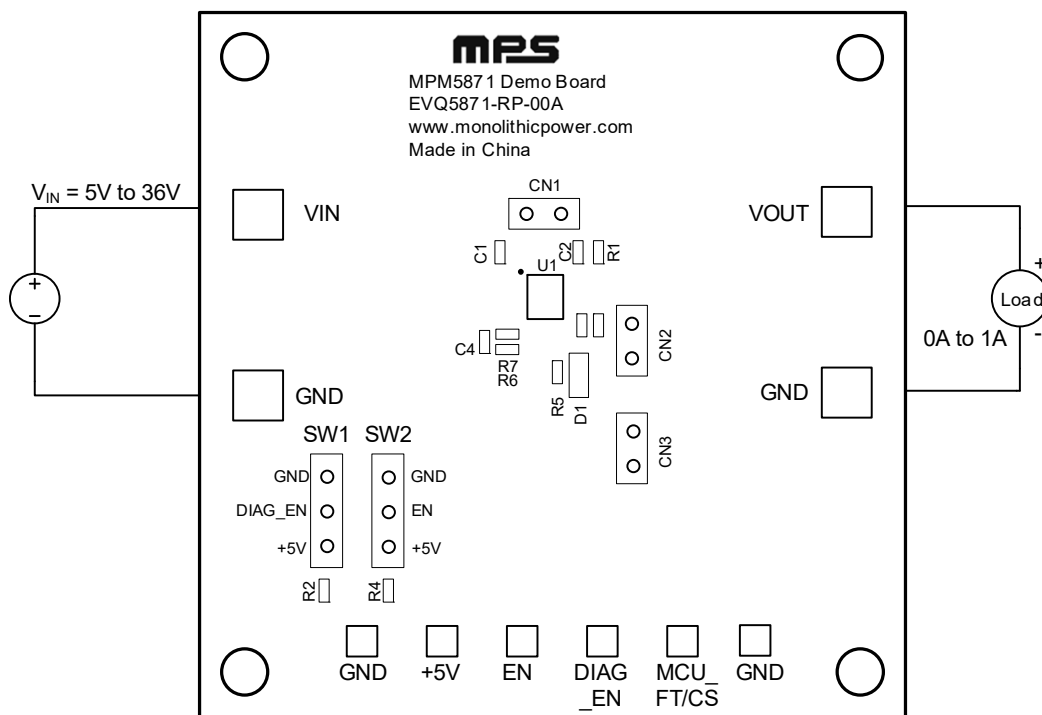

**Figure 1: Operation Mode State Machine**
5. For information on standby mode, diagnostic mode, and normal mode, refer to the MPQ5871's datasheet. Figure 1 shows the operation mode state machine.